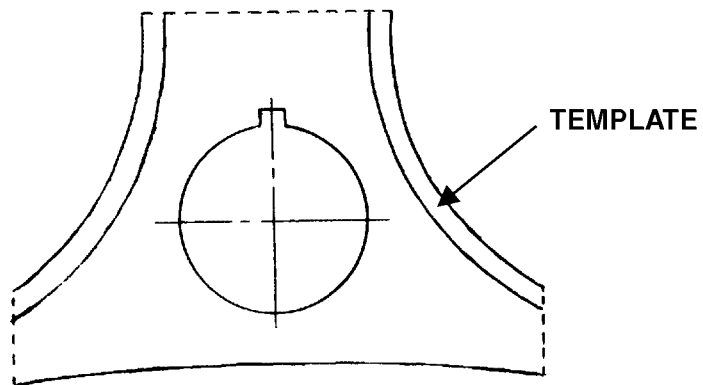

FIGURE 10
1. Carefully cut out the template on Sheet 7 (refer to Figure 10).